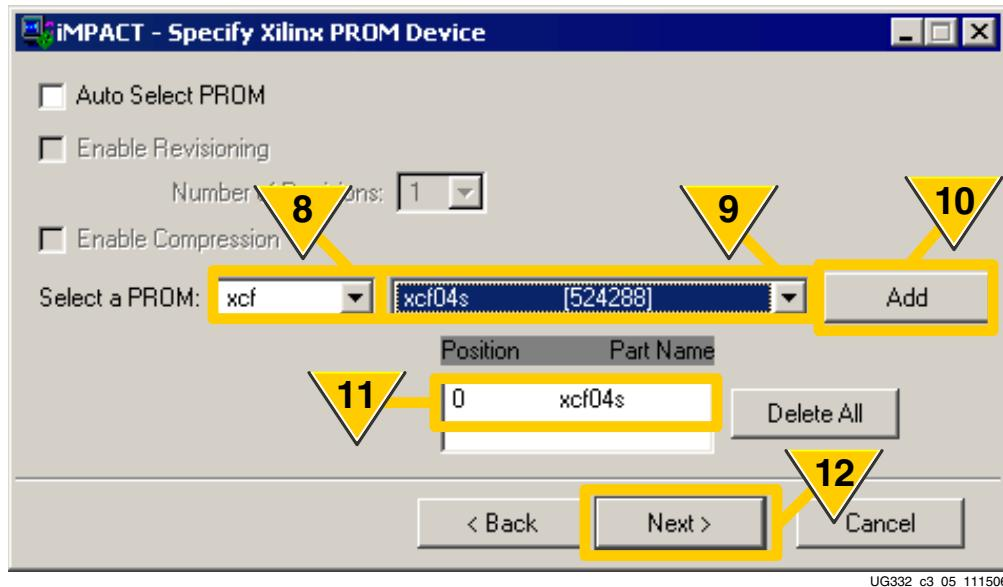

Figure 3-10: Select Platform Flash PROM
8. As shown in Figure 3-10, select the xcf (Platform Flash PROM) family from the drop-list.
9. Select the desired Platform Flash part number. The example in Figure 3-10 shows an XCF04 PROM, which stores up to 4 Mbits, or 524,288 bytes.